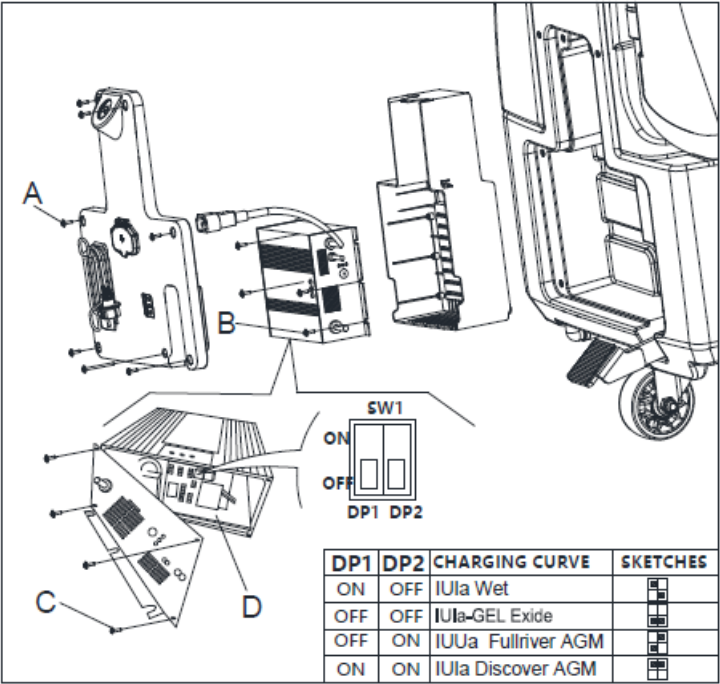

Figure 6
- Open the charger and find SW1 (D, Figure 6).
- Set DP1 and DP2 according to the table in Figure 6.
- Install the screws (A,B,C, Figure 6) after the setting.